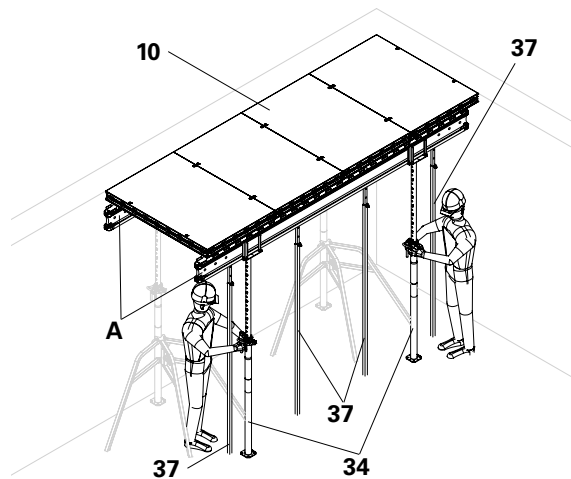

Fig. D6.14
- Place four panels (DP 135 x 90) (10) on each VT 20 L = 3.60 m (A).
- Place three panels (DP 135 x 90) (10) on each VT 20 L = 2.65 m (B).
5. Repeat points 3 and 4 for the neighbouring DUO DP panels (10) until the girder is filled with DP panels (10). DP panels (10) that no longer fit onto the current girder are placed on the next girder.
6. Place the second girder (A) and the slab props that support it beneath the edge of the DP panels (10). Adjust the slab props (43) to the correct height. The distance between the first and second row of props must be 1.20 m. The second girder supports the next row of panels. (Fig. D6.14).